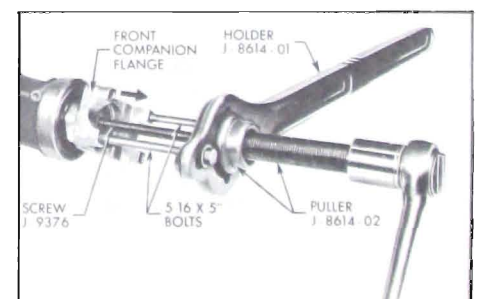

Figure 4-18A—Removing Front Companion Flange
3. Remove front companion flange. See Figure 4-18A.